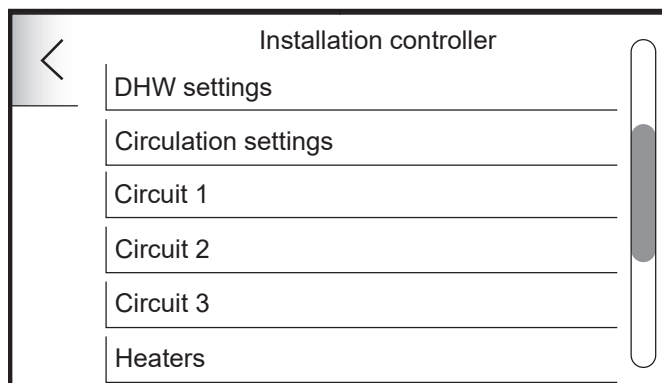

Figure 7-11: Installation controller menu
- Swiping the Touchscreen display scroll down to the desired circuit and select by tapping. (Refer to Figure 7-11).